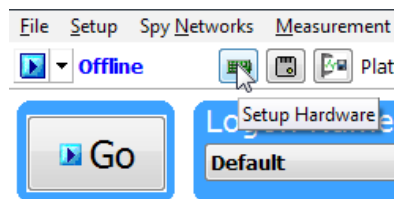

Figure 53: Starting neoVI Explorer from within Vehicle Spy.
- **Hardware Setup Button:** Click the  button located in the main Vehicle Spy toolbar just under its menu (Figure 53).